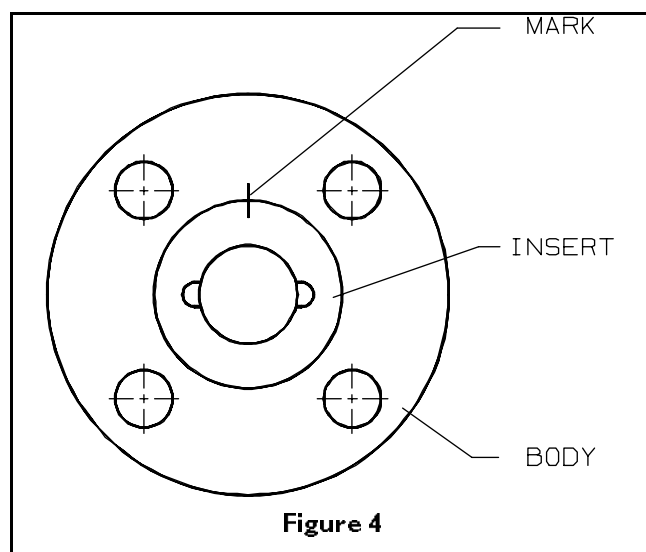

Figure 4
5. **If you have a torque wrench, skip this step and proceed to step 6.** Screw the insert (2) into the body until it is fully seated. Use a pencil or felt tip marker to mark the position as shown in Figure 4. Counting the number of turns, remove the insert.
6. Insert the ball (3), rotating it onto the stem (4) in the closed position. If necessary, turn the stem blade to align with the ball slot.